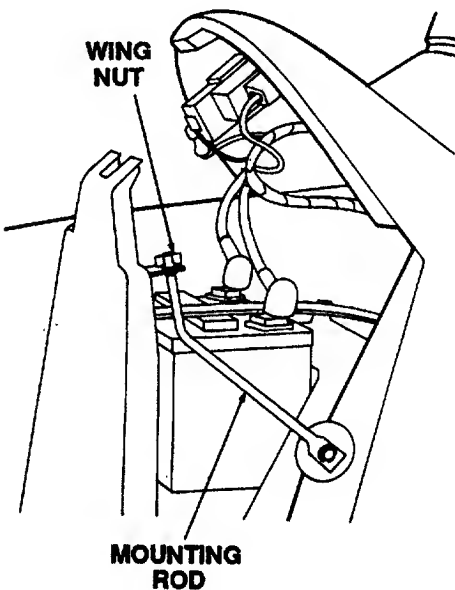

Figure 27
2. Remove the wing nut securing the mounting rod to the bulkhead mounting bracket (Refer to Figure 27) and pull the rod downward from the bulkhead bracket.
10. Rotate the mounting rod downward and insert through the bottom of the hole in the bulkhead mounting bracket (See Figure 27).